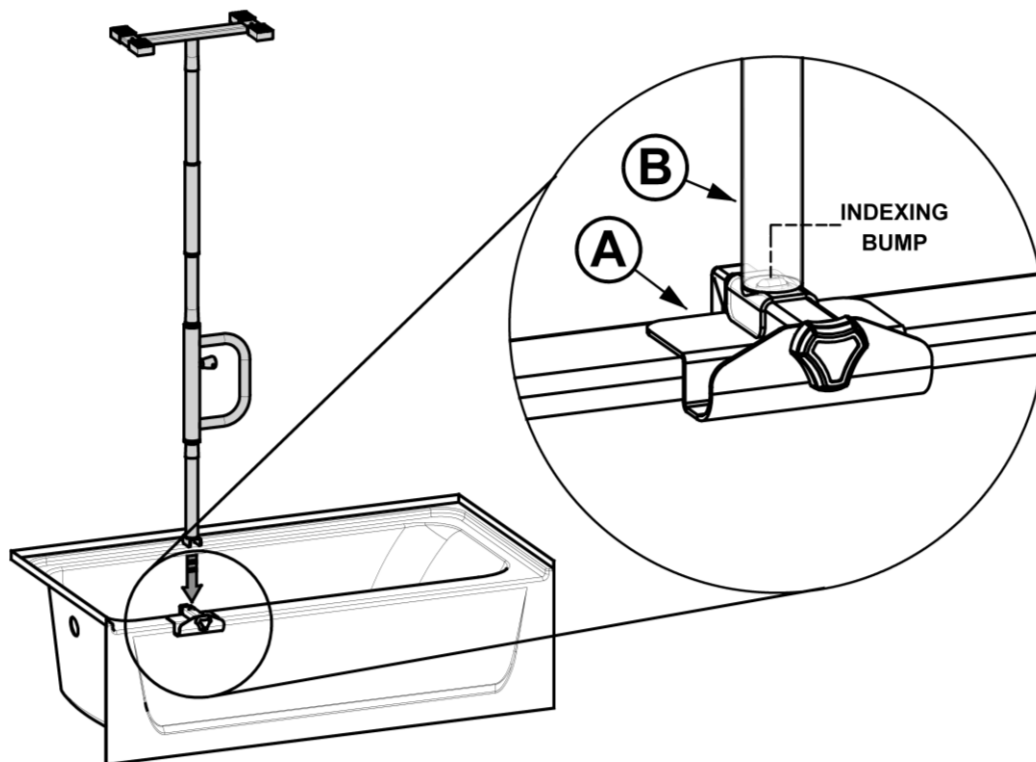

FIGURE 5
5. Insert Base Tube **B** onto Clamp **A**. Ensure that the indexing bump on Clamp **A**, aligns with the hole in Base Tube **B** as shown in *FIGURE 5*. Cover red markings to ensure proper installation.